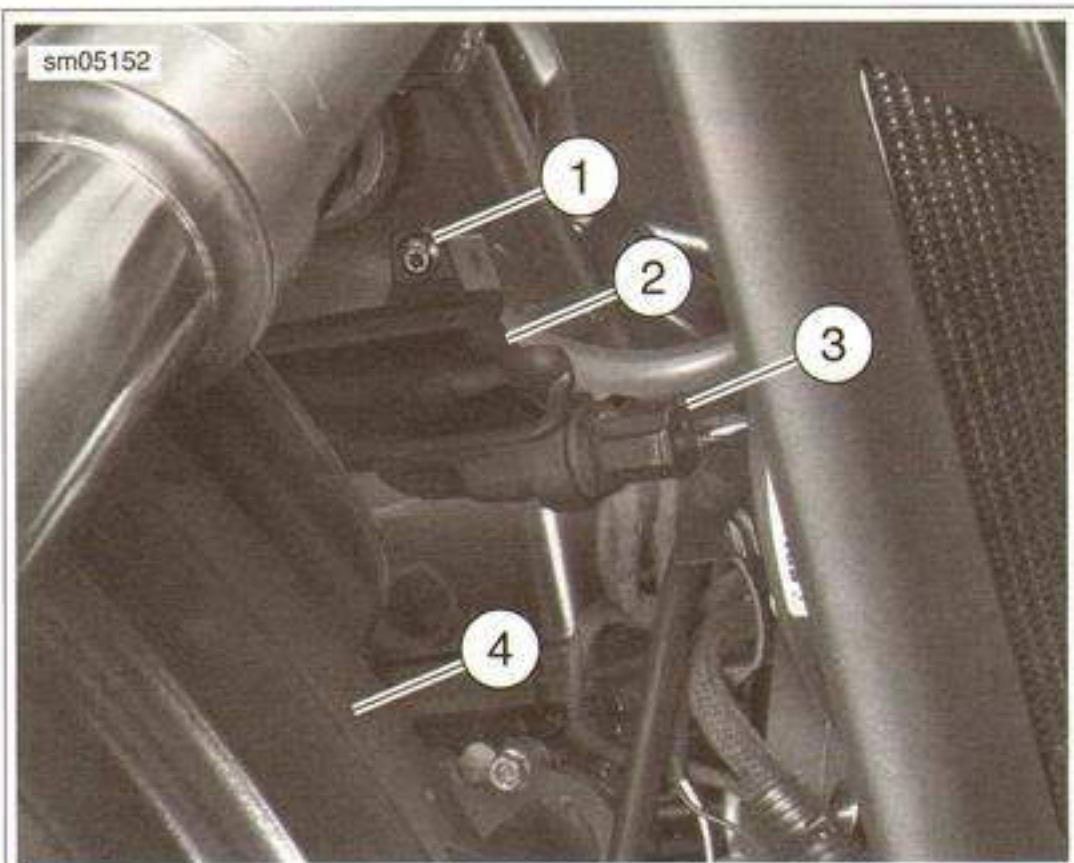

Figure 3-2. Fuel Pump Connector [86]
2. See Figure 3-2. To purge the fuel lines, separate the fuel pump connector [86] and run the engine until it is out of fuel.